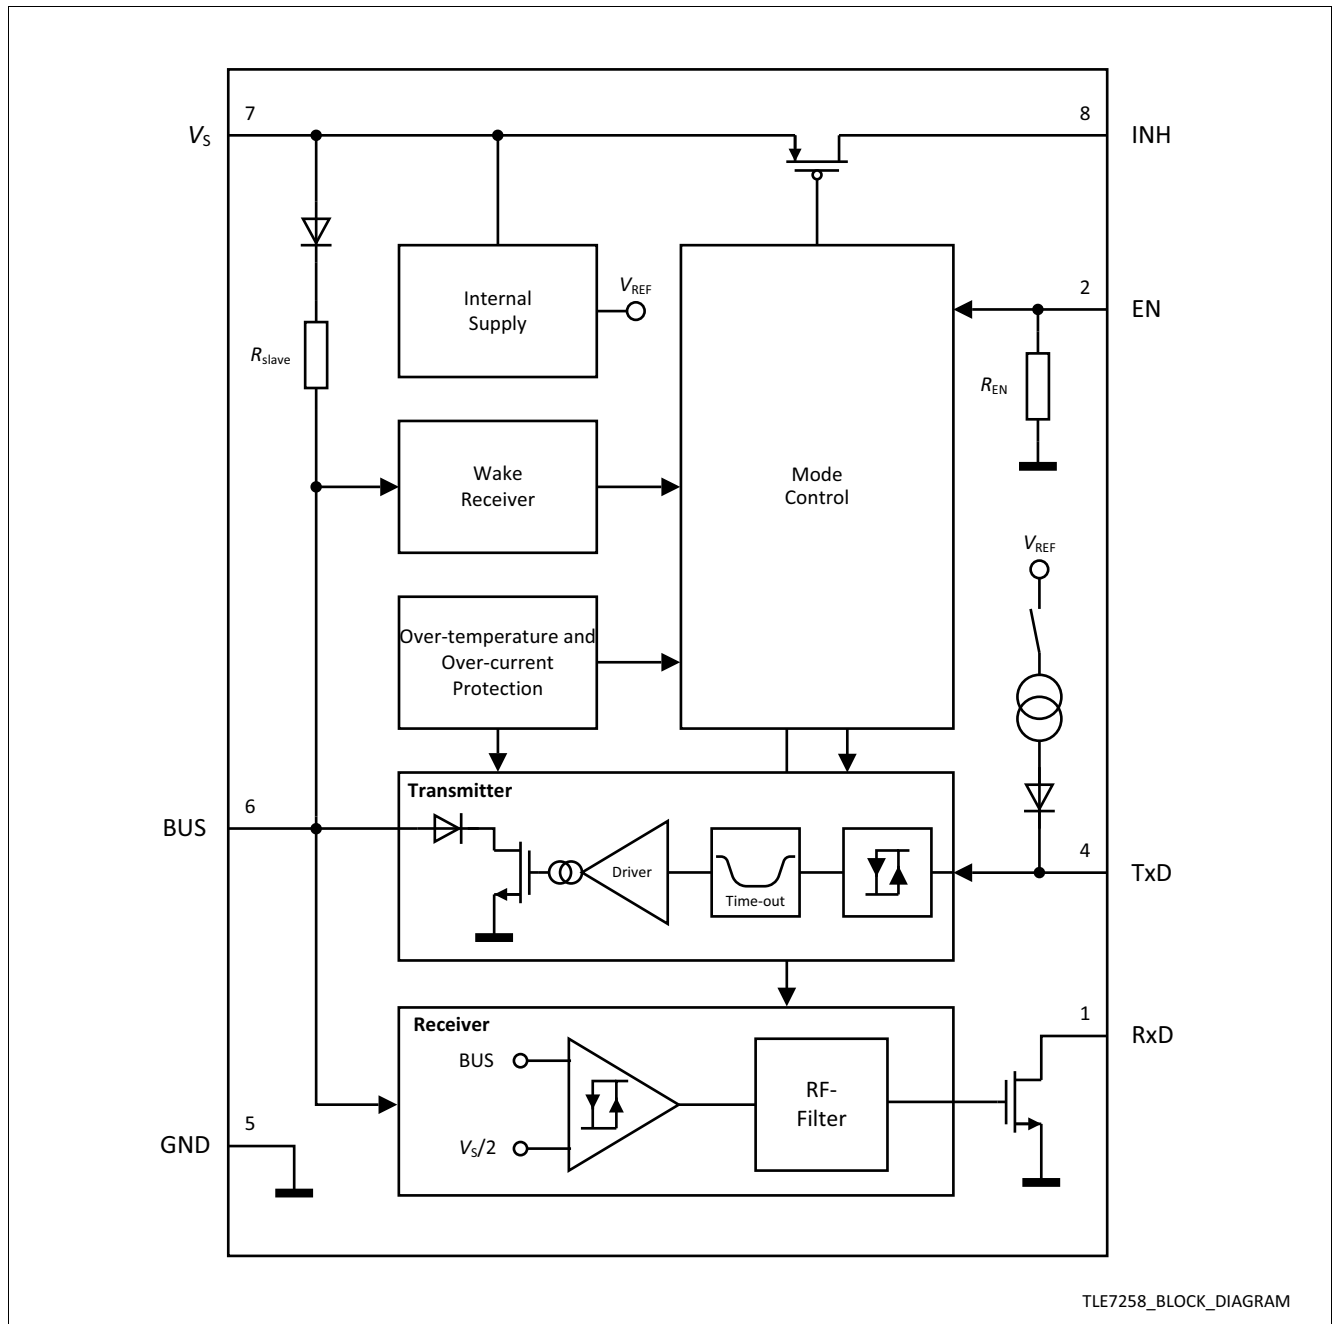

Figure 1 Block diagram
- 1) The TxD input is disabled in sleep mode and the internal pull-up current source is switched off (see **Figure 1**).
- The BUS pin is terminated to V_S via the internal termination resistor R_{BUS} (see Figure 1).
- The BUS output is terminated to V_S via the internal termination resistor R_{BUS} (see Figure 1).